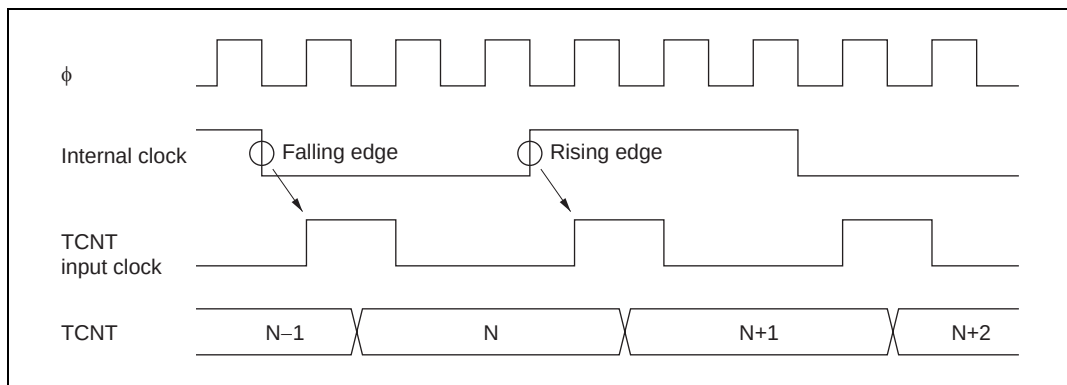
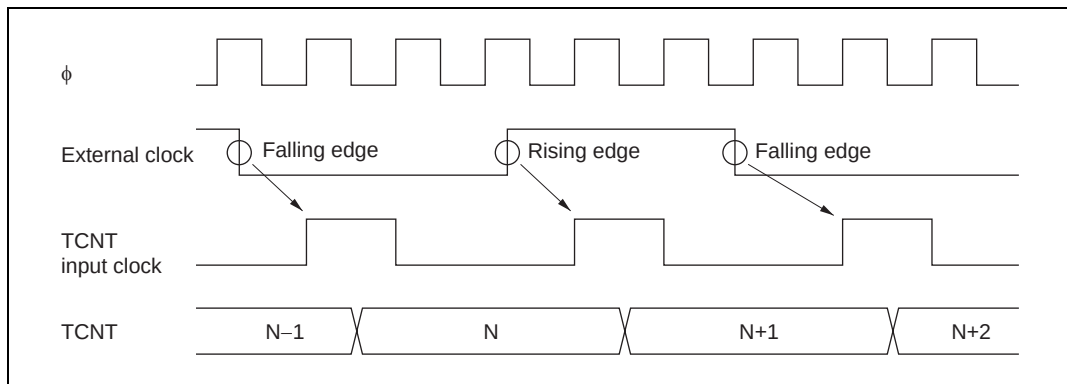

**Figure 9.34 Count Timing in Internal Clock Operation**
**Figure 9.35 Count Timing in External Clock Operation**
**TCNT Count Timing:** Figure 9.34 shows TCNT count timing in internal clock operation, and figure 9.35 shows TCNT count timing in external clock operation.